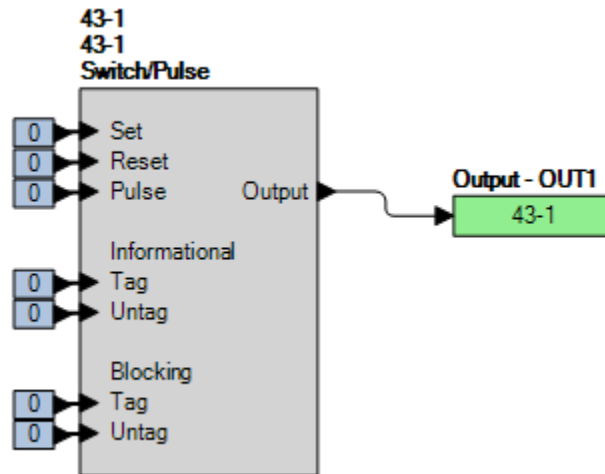

Figure 68-1. BESTlogicPlus Settings
Step 2: Use BESTCOMSP*lus* to configure the BESTlogic*Plus* programmable logic shown in Figure 68-1.